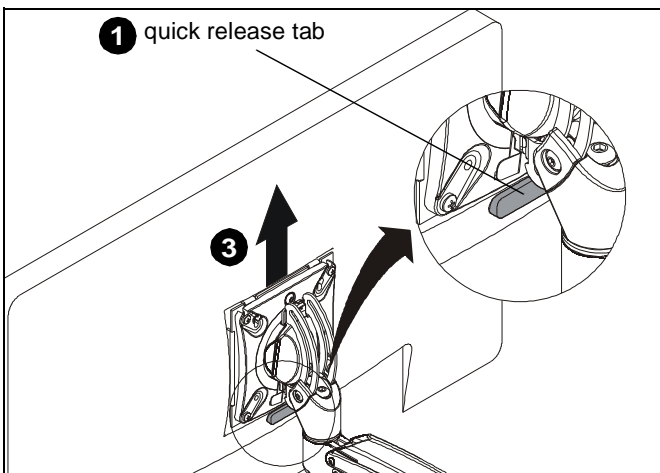
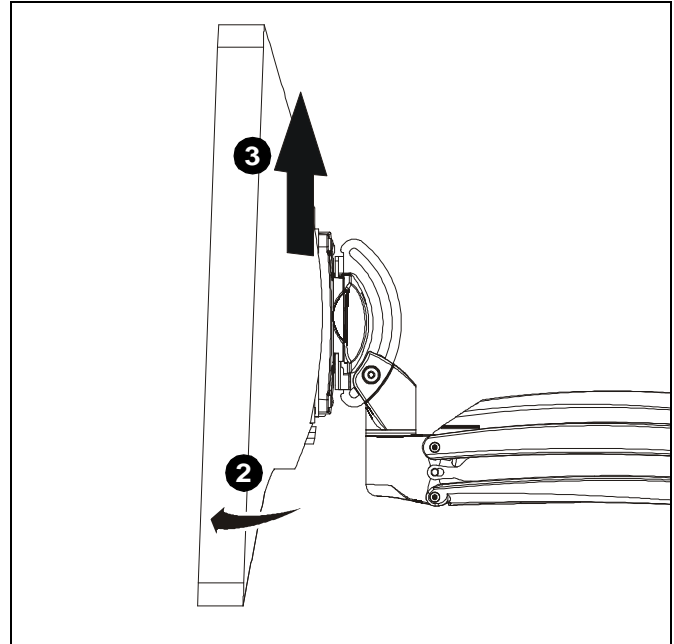

Figure 23
Figure 24
**⚠ WARNING:** Only remove display from mount when the display can be lifted up from the mount! DO NOT remove display unless the display is in the upright position! (See Figure 23)
1. Press quick release tab on back of display to release display from faceplate. (See Figure 23)
2. Pull bottom of display away from faceplate. (See Figure 24)
3. Lift display up from faceplate. (See Figure 23) and (See Figure 24)